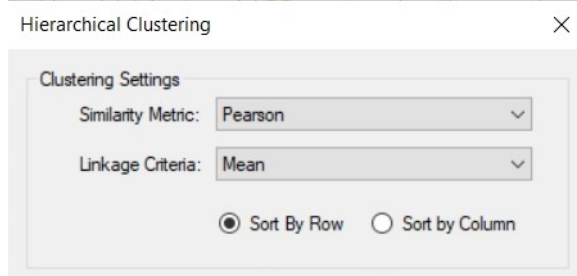
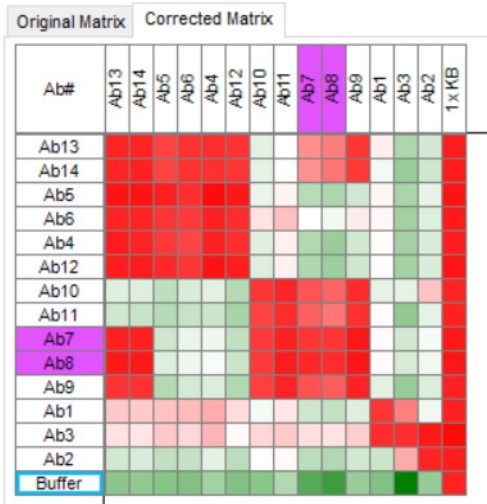

Figure 7-34: Hierarchical Clustering Settings
Figure 7-37: Matrix Clustered Using Maximum, Mean and Sort by Row
1. Click  (**Cluster**). The Hierarchical Clustering settings box appears (Figure 7-34).
- Select **Sort by Row** or **Sort by Column** (Figure 7-34). Click **OK**. The matrix cluster per the settings you select (Figure 7-37).